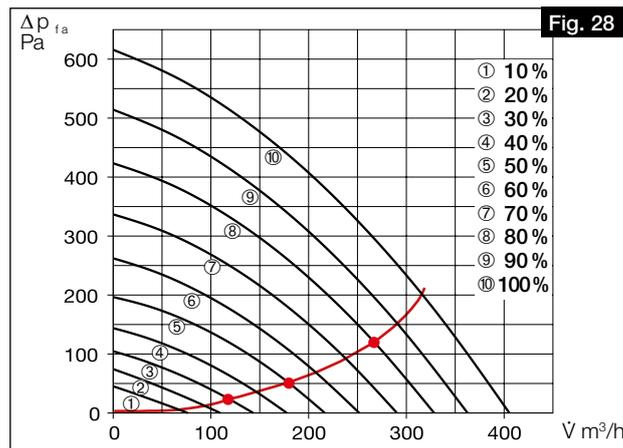

Fig. 28
6. If individual measuring points are connected, the system characteristic curve is for supply or extract air (cf. Fig. 28).